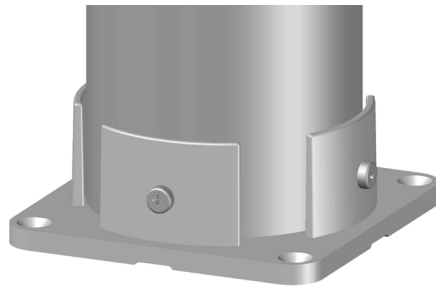

Fig. 8
Step 4 - Insert the aluminum pipe into the mounting plate and fasten it together using the four #8 - 18" x 1" Phillips Pan Head Stainless Steel Self-Tapping screws (Fig. 5) provided. (Fig. 8)